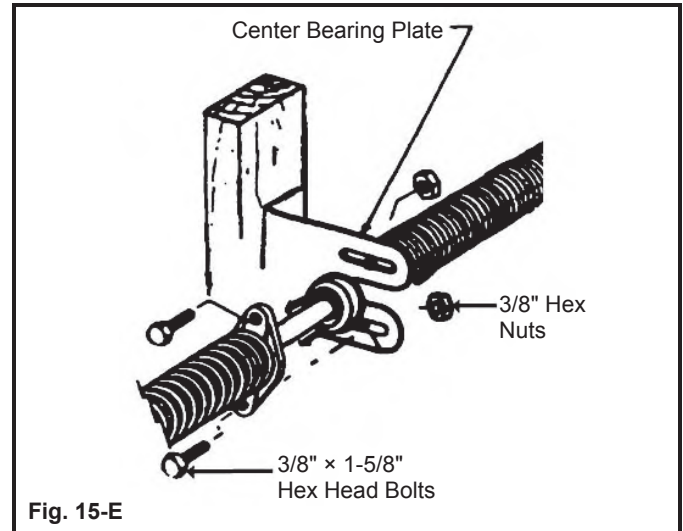

Fig. 15-E
- Using at least (4) long lag screws for wooden frames (or (4) 3/8" × 4" sleeve anchors for concrete frames), attach (2) 2" × 6" wood anchor pads to the frame of the garage across the center of door. Fasteners should be located in each corner of anchor pad, but no closer than 1-1/2" from the edge. (Fig.15-A).
NOTE: Header and side jambs should extend 12" above the top of the opening for 12" radius and 15" above the top of the opening for 15" radius (Fig. 15-A). Wood anchor pad may be off center to width of the opening by up to 10" in either direction.
- Slide the steel shaft coupler, a spring anchor bracket, torsion spring (left wound) with black winding cone, and black cable drum onto one section of the steel shaft (Fig. 15-B).
- Insert solid shaft key into coupler and tighten the two set screws (Fig. 15-C).
- Slide second spring anchor bracket, torsion spring (right wound) with red winding cone, and red cable drum onto the other side of the steel shaft (Fig. 15-D).
- Drill (2) 3/16" pilot holes into spring anchor pad, no closer than 1-1/2" from edge.
- Mount the center bearing plate to center anchor pad using (2) 5/16" × 1-5/8" red-headed lag screws.
- Connect spring(s) to corresponding center bearing plate. Use (2) 3/8" × 1" hex bolts and nuts for single springs or (2) 3/8" × 1-5/8" hex bolts and nuts for double springs (Fig. 15-E).